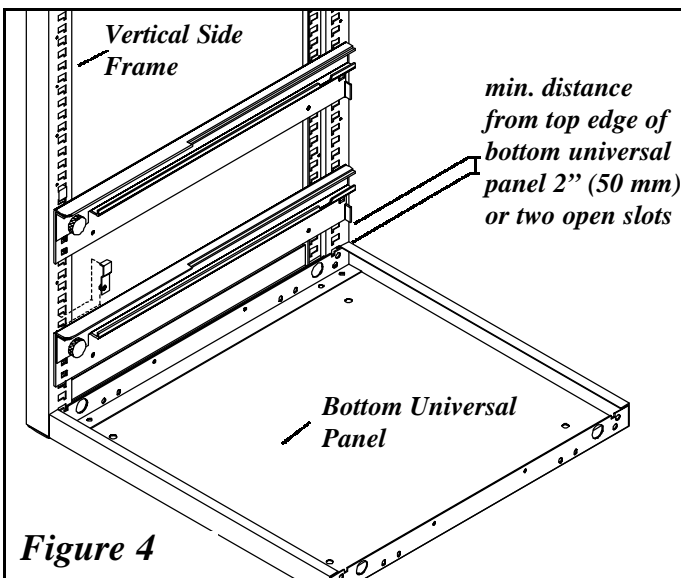

Figure 4
- Install the lowest right or left outside support track ② or ③ no lower than 2" (50mm) or 2 open slots up from the top edge of the bottom universal panel (see figure 4). Install support track by sliding the tongues at the rear of the support track into the slots in the rear vertical side frame. The front slots should then easily slide into the front slots. Be sure that support track is level. Use a mallet to tap the track into place. Repeat for the other outside support track.